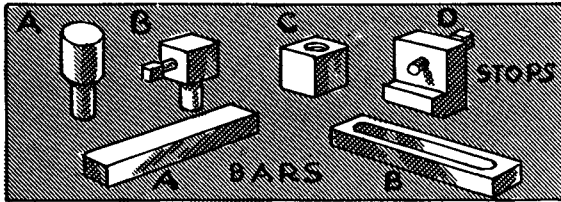

FIG. 174
3. Select two stops from each of the types illustrated at A, B, C, and D, a bar A, and a bar B (Fig. 174).